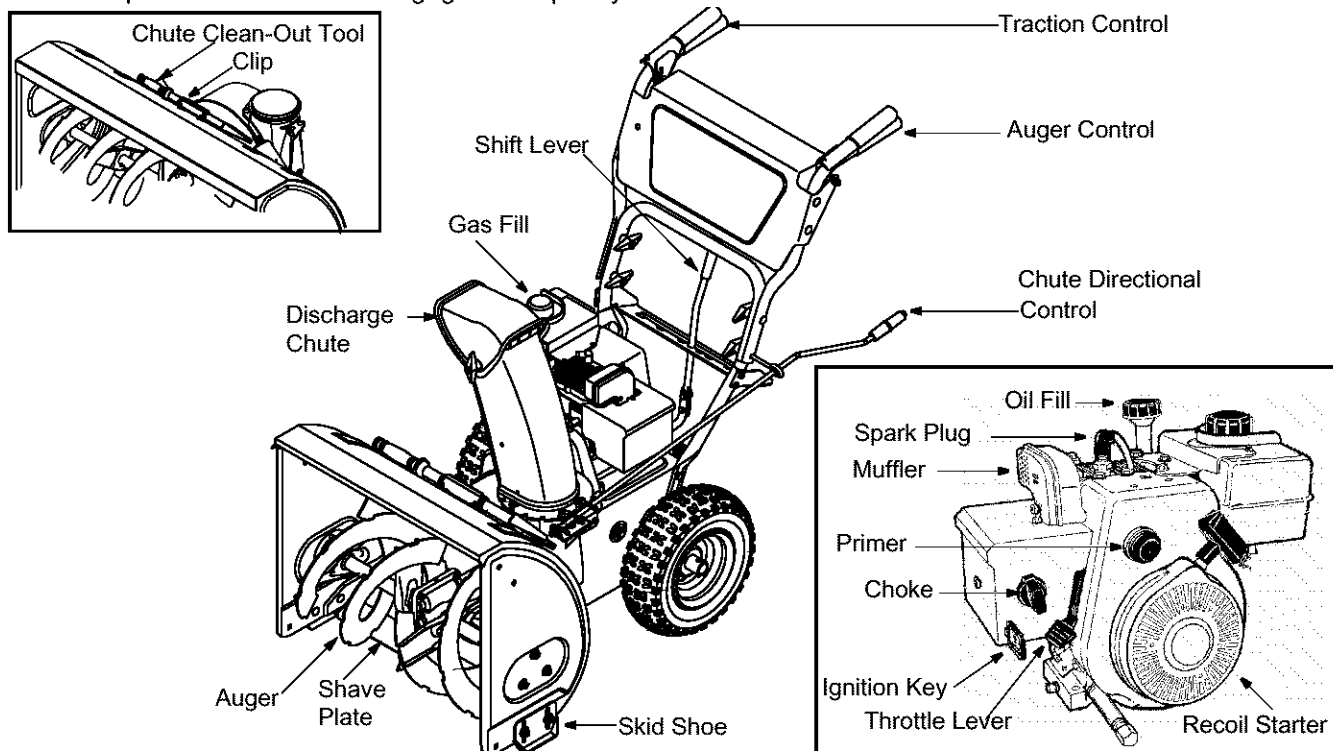

Figure 6
1. Locate the shave plate in Figure 6. The space between this shave plate and ground can be adjusted.
Be familiar with all the controls and their proper operation. See Figure 6 and follow descriptions given below. Know how to stop the machine and disengage them quickly.